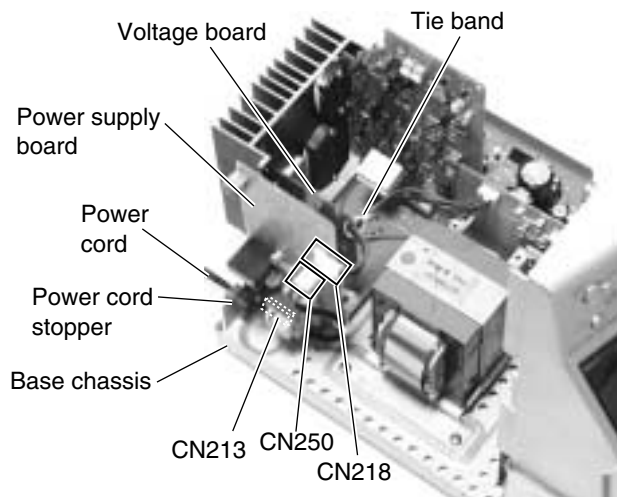

Fig.19
■ Removing the power cord / power supply board (See Fig.19)
■ Removing the amplifier board / voltage board / heat sink (See Fig.19 to 21)